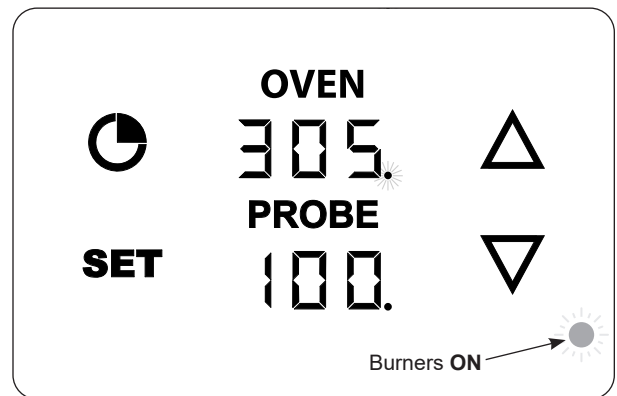

Fig. 38-2 Red LED status light
- The **red LED light** indicates that the heating burners are **on**. The **light** turns on and off intermittently as the burners maintain the set temp. See Fig. 38-2.